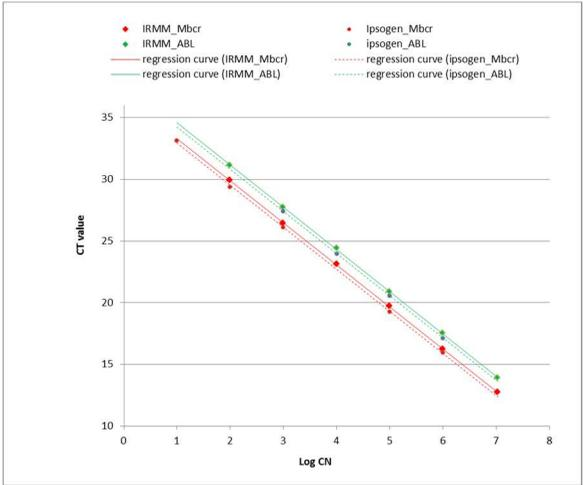
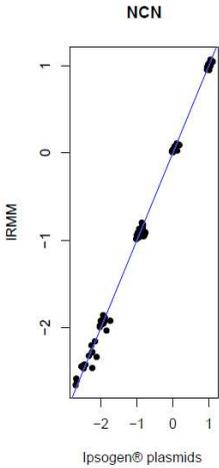

Figure 11. Comparison of *ipsogen* and ERM-AD623 BCR-ABL1 plasmids shows that standard curves are aligned.
Figure 12. NCN values for the *ipsogen* and ERM-AD623 plasmids are comparable.
The comparison was based on BCR-ABL1 Mbc/ABL1 normalized copy number ratio (NCN), assessed the two standards' dilutions (*ipsogen* or ERM-AD623 BCR-ABL1), on control samples included in *ipsogen* kits and on certified reference material from the National Institute for Biological Standards and Control (NIBSC) (8). Results show that the two standard curves are aligned (Figure 11) and NCN ratios comparable (Figure 12).